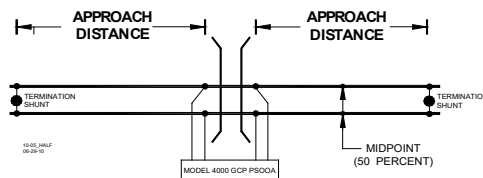

Figure 4: Midpoint Location (See Step 6 below)
Step 31	Transfer the information written in Table 11: Calibration Value History Form, 1st Approach and Table 12: Calibration Value History Form 2nd Approach below onto Figure 1 and Figure 2 of the GCP 4000 Application History Card, SIG-00-04-21 and Figure 1 and Figure 2 of the GCP 4000 System Cutover Test Procedure and Check Off Sheet, both of which are found at the back of the GCP 4000 Family Application Guidelines Manual, SIG-00-08-10. If the initial settings of the GCP were changed or equipment changes were made such that require recalibration of the GCP, Approach, and Linearization, place the updated Computed Distance and Linearization Steps data in Figure 3 and Figure 4 of the History Card.